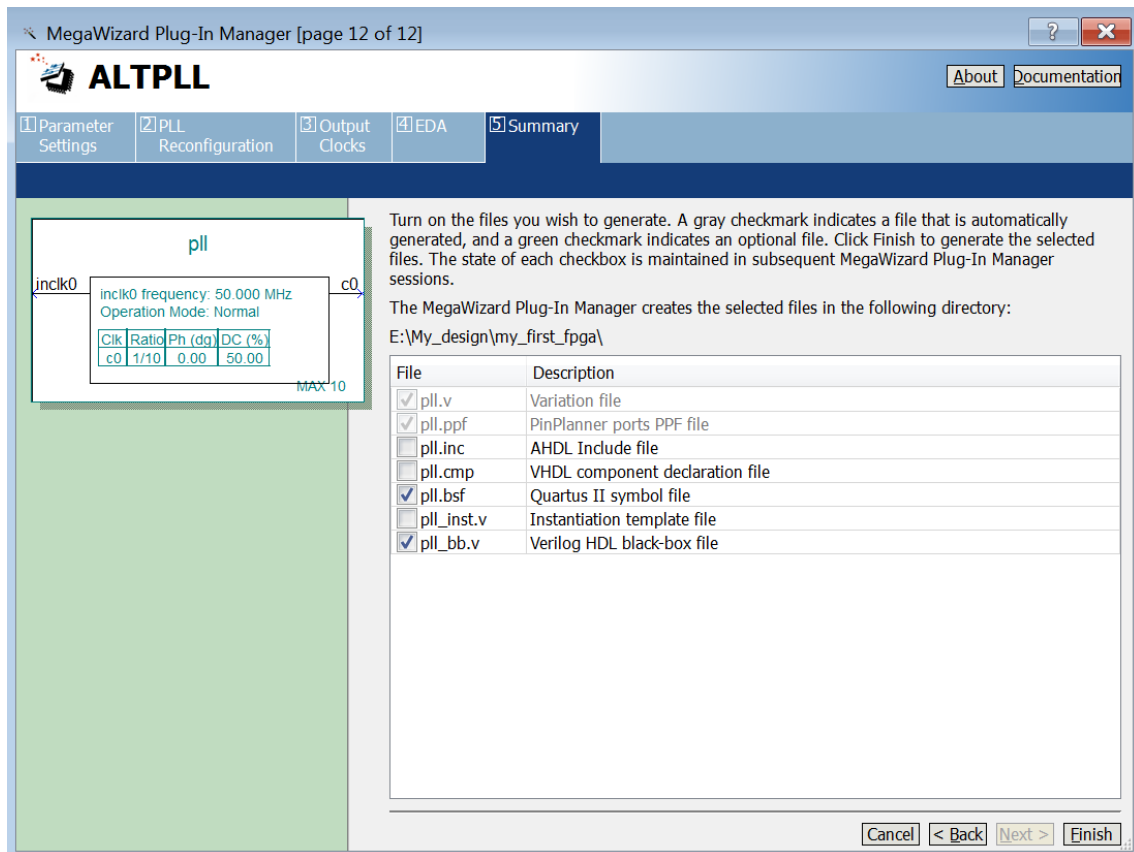

Figure 3-12 MegaWizard Plug-In Manager [page 12 of 12] Selections
10. The wizard displays a summary of the files it creates (see Figure 3-12). Click Finish again.